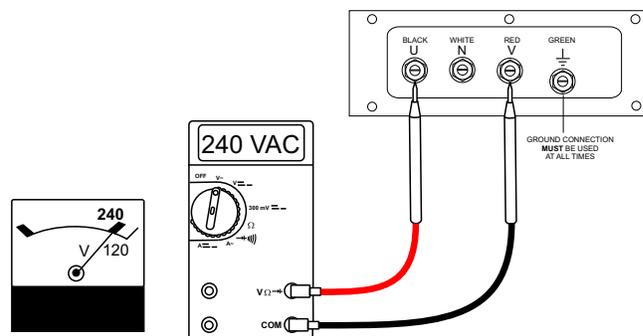

Figure 22. Output Terminal Voltage Verification (240 VAC)
- Measure the voltage at the output terminals. The reading across terminals **U** and **V** (Figure 22) should be 240 VAC.